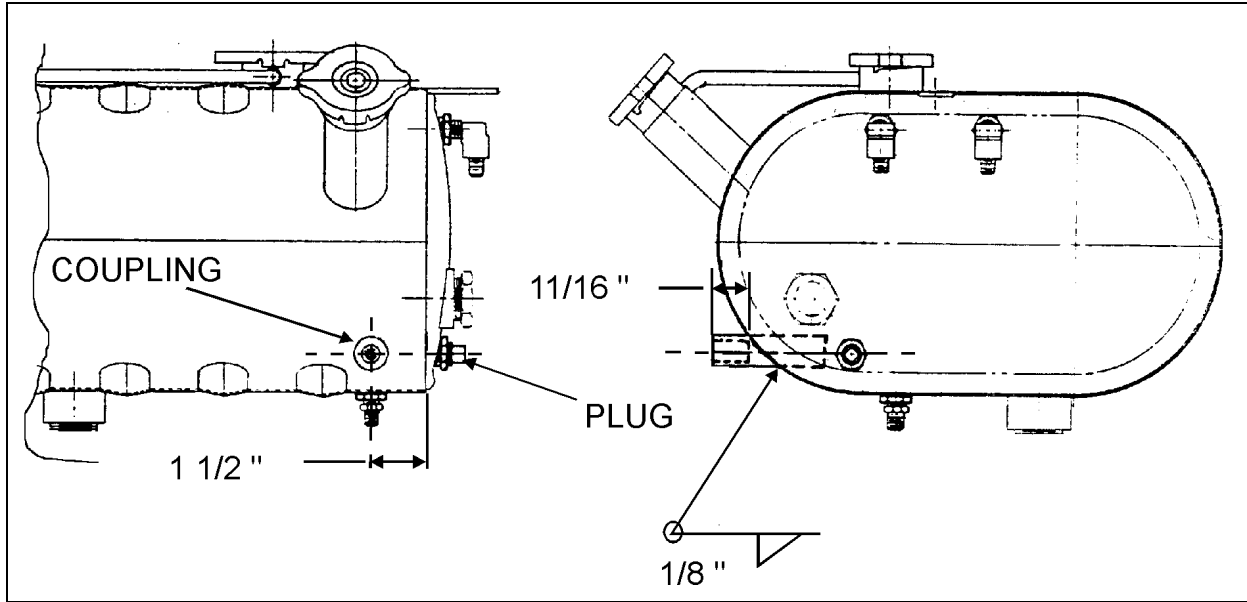

FIGURE 2: SURGE TANK
6. Make a hole in surge tank with a $\frac{3}{4}$ inch diameter drill. For hole location, refer to figure 2.